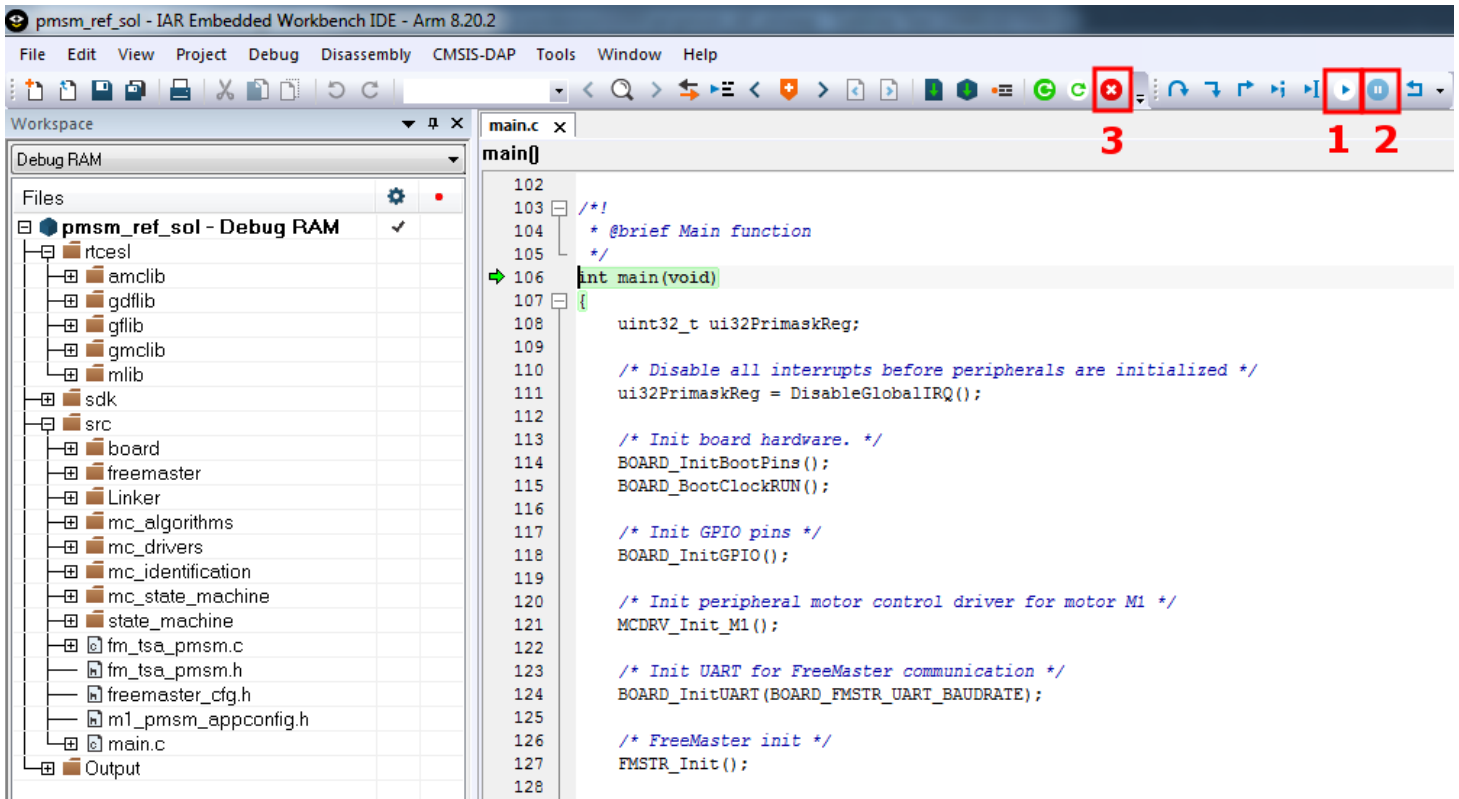

Figure 6. IAR debug workspace
5. As shown in Figure 6, the layout is switched to the debugging mode.
- To run the application, press the “Go” button (Point 1 in Figure 6).
- To pause the running application, press the “Pause” button (Point 2 in Figure 6).
- To stop debugging, press the “Stop” button (Point 3 in Figure 6).
6. As shown in Figure 6, the layout is switched to the debugging mode. The debugger does not perform reset. It just connects to the running target.
- To stop the debugging, press the “Stop” button (Point 3 in Figure 6).